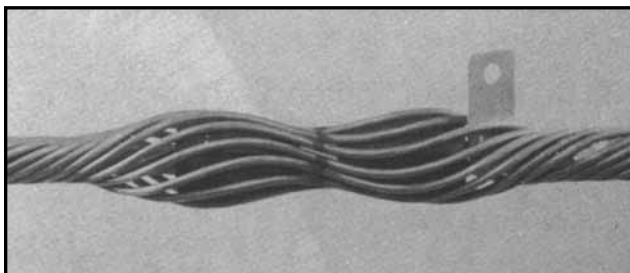

Figure 8
- 3.05** Using both hands, encircle the free rod ends at one end of the application. Twist all rod ends into position simultaneously. Repeat process at other end. Check to be sure that the insert has remained perpendicular to the plumb (Figure 8).